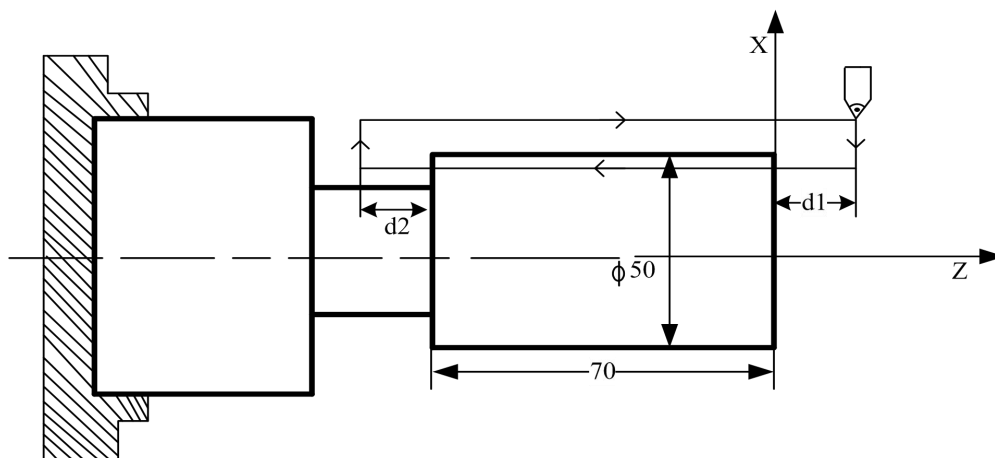

Fig. 4-2-12-3
- Example 1: Write program in Fig. 4-2-12-3 with G32 code, with thread pitch for 4mm.